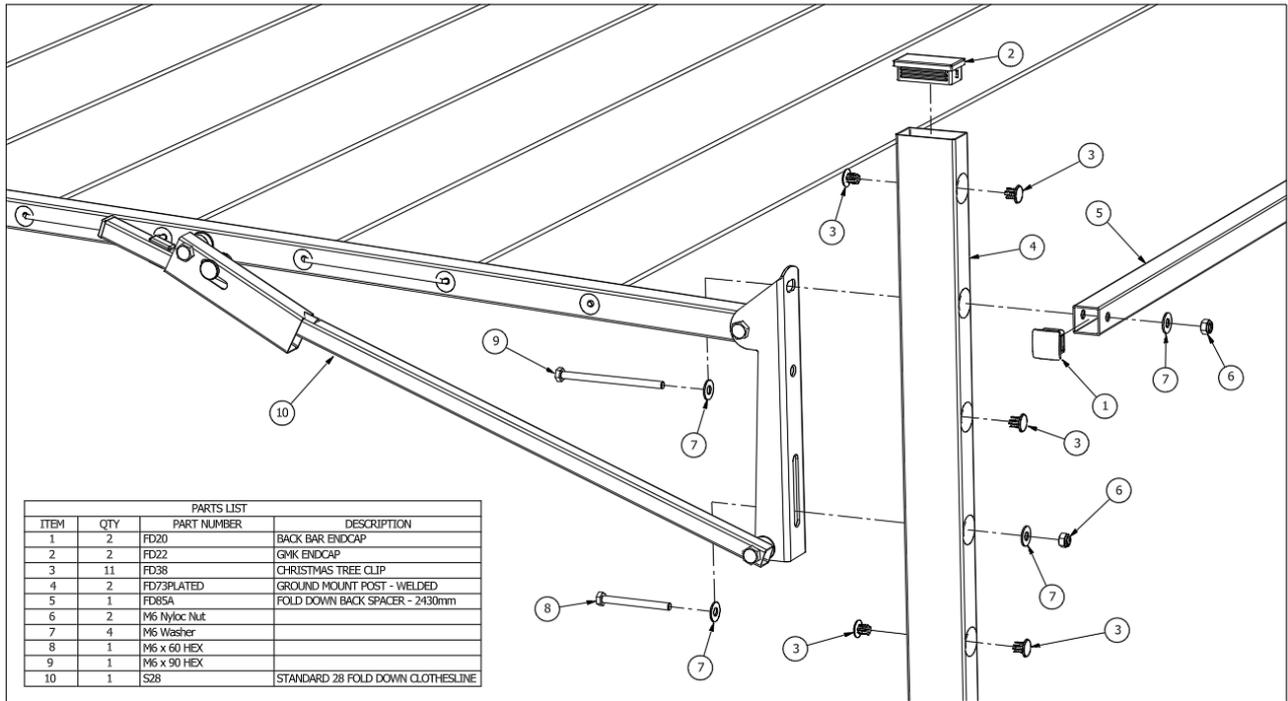

Fig 6. Installation to GMK.
4. Install Clothesline to GMK as shown (Figs 6 and 7)